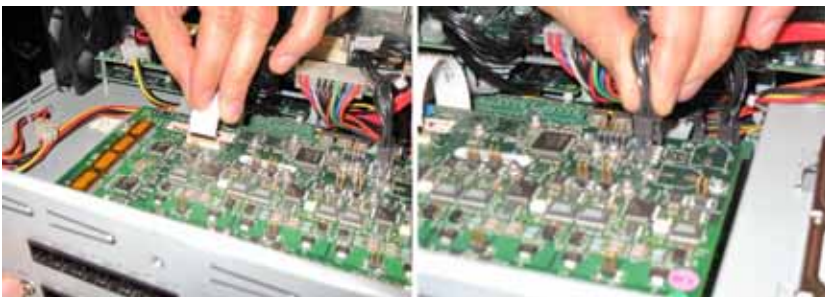

Figure 50: Attach Flex cable and Power Cable to AOB
9. Connect the other ends of the flex cable and power cable where indicated in Figure 50 (page 182). To attach the flex cable, lift up on the tabs at the end of the connector to loosen it, insert the cable label side up, and then press down on the tabs to tighten the connector.